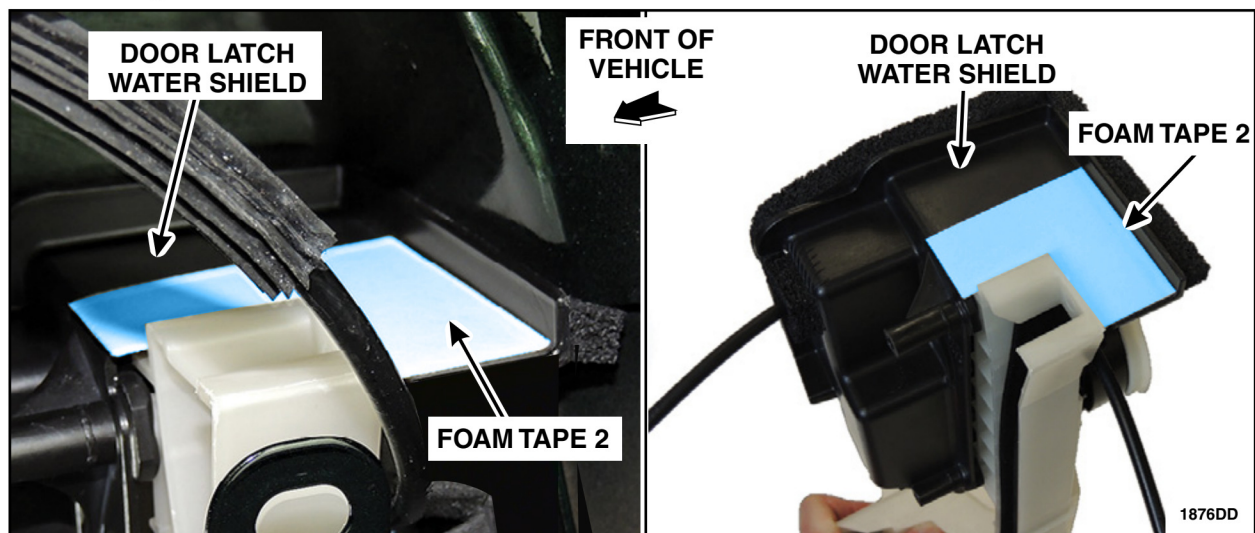

FIGURE 45
25. Clean the highlighted area on top of the *new* door latch water shield with isopropyl alcohol and a clean shop towel where the foam tape 2 will be installed. See Figure 45.